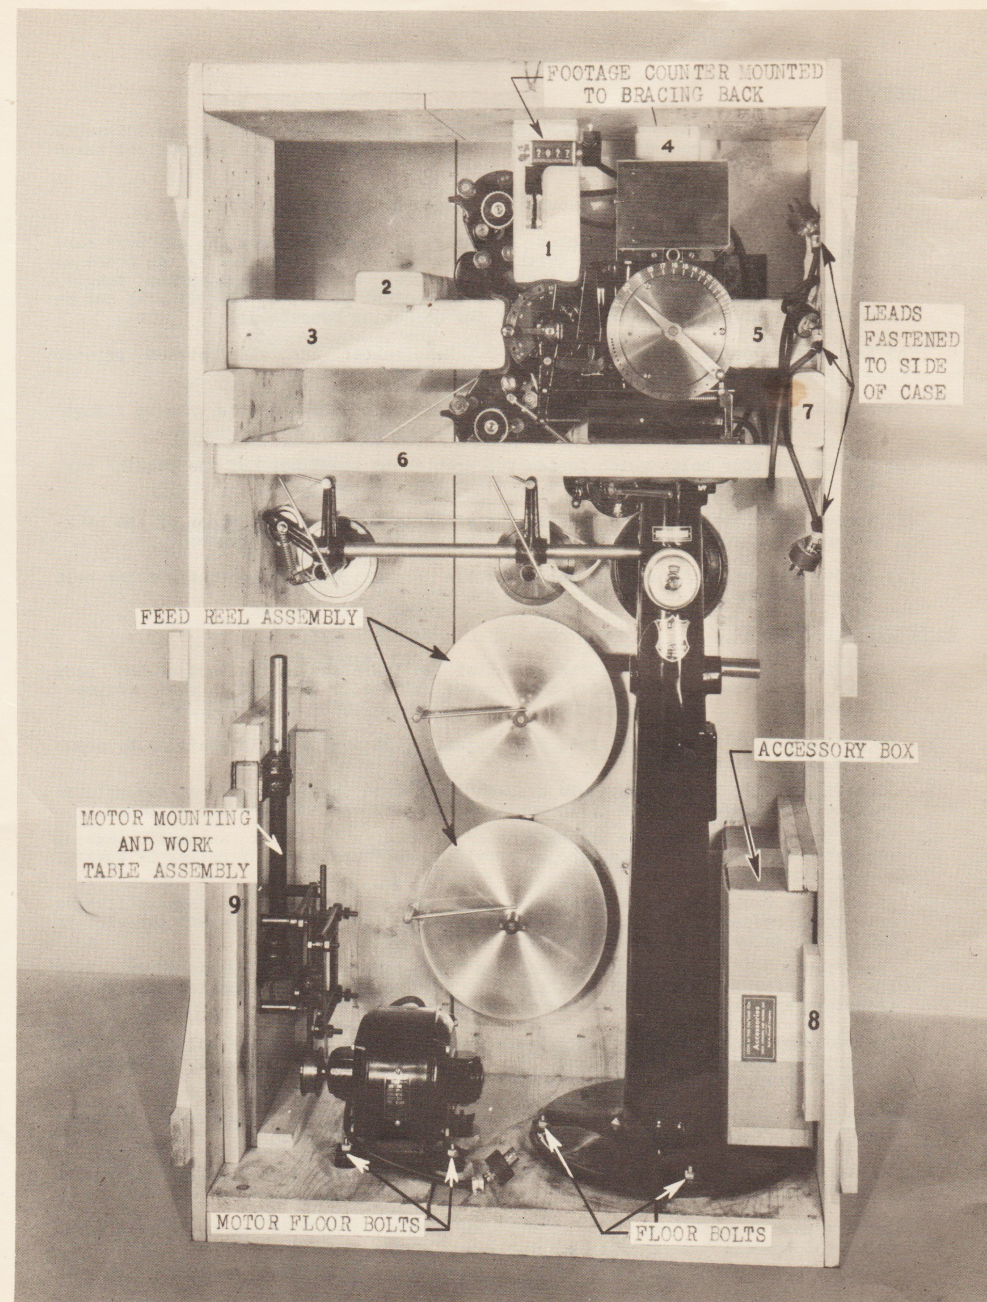

FIGURE 1 - PRINTER AS PACKED FOR SHIPMENT.
1. The printer is partially disassembled when prepared for packing and shipment. Figure 1 shows the manner in which the printer is packed and the precautions taken to insure safe handling in transit.